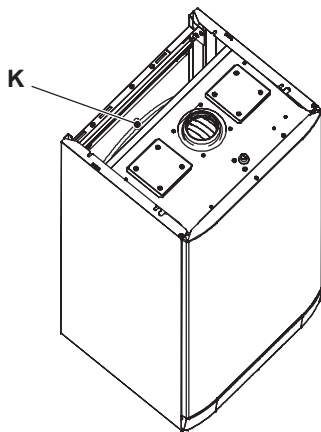

Figure 13.1 Rear view of the boiler
- 2 Remove the protective cap K (Figure 13.1) from the valve on the top of the expansion vessel and connect a suitable air pressure gauge.